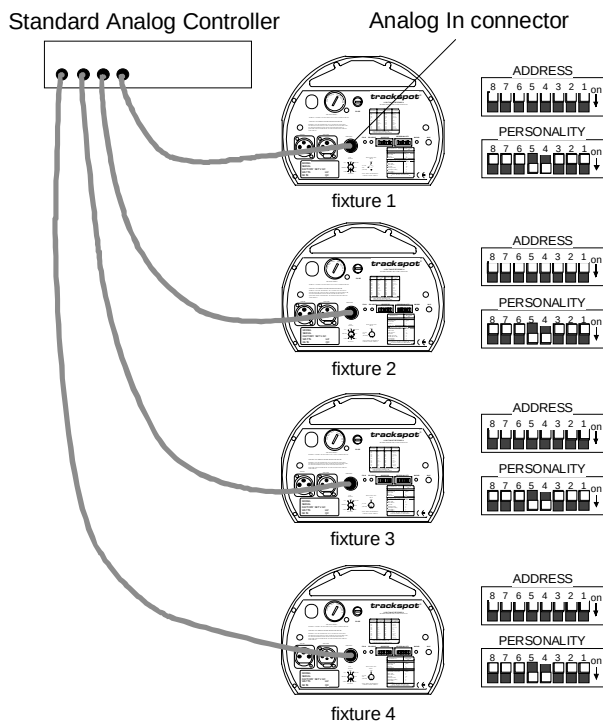

Figure 2-10. Linking fixtures to a standard analog controller
2. Connect the individual analog outputs from the controller to each fixture's Analog In connector using 8-pin DIN connector cables (see Figure 2-10).